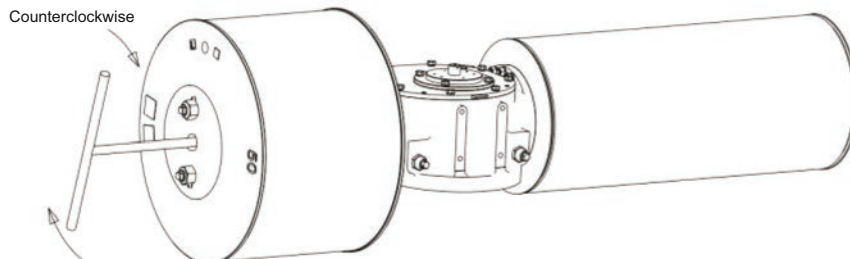

Figure 23
3. Use the special tools provided by the factory to extend into the cylinder module and insert into the end of the piston rod, as shown in Figure 23.
4. Rotate the special tool counterclockwise in the direction shown in Figure 23 to completely disengage the piston rod and the transmission joint. Refer to Table 10 for the number of rotations.